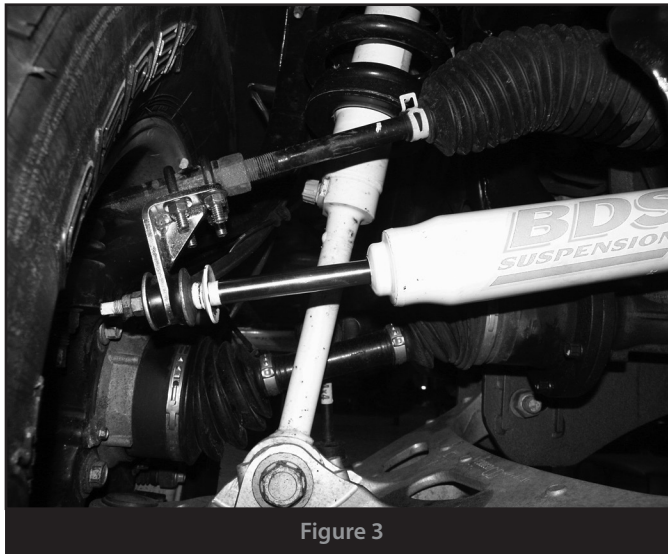

Figure 3
5. Tighten 3/8" nuts on stabilizer until bushings begin to expand, lock off jam nuts to 25 ft-lbs. **Figure 3**